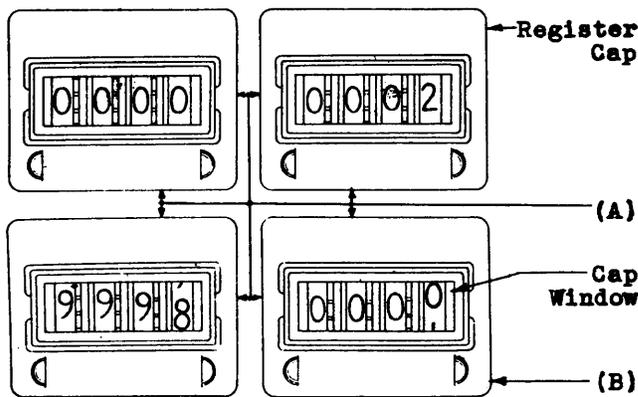

Fig. 6 - Register Mounting and Alignment
2.07 Register Mounting and Alignment — Fig. 6(A)
2.08 Register Cap Fit — Fig. 6(B) — The register cap shall be tight with not more than perceptible side play but shall be readily removable with the No. 90 cap remover.